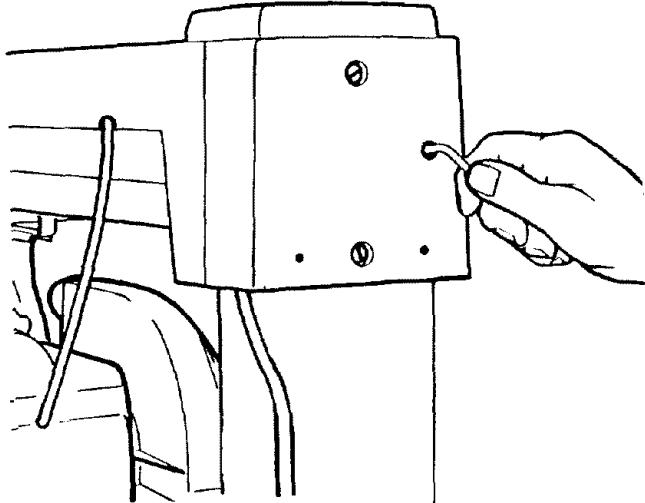

Fig. 157 - Location of Hex Socket Cap Screw
- With a 3/16 inch hex "L" wrench find the 1/4-20 hex socket cap screw through the hole in the rear of the *arm cover*. To tighten turn the wrench clockwise approximately 1/4 turn. (Figure 157)